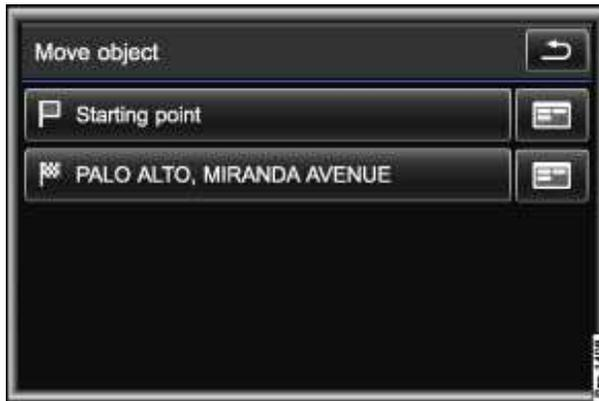

Fig. 195 Move object: Specifying the position for a new destination.
- In the **Move object** menu, press the **Starting point** Ffunction key to add the destination as the first stopover ⇒ fig. 195.
Move: Makes it possible to move the destination in the tour plan ⇒ fig. 195.